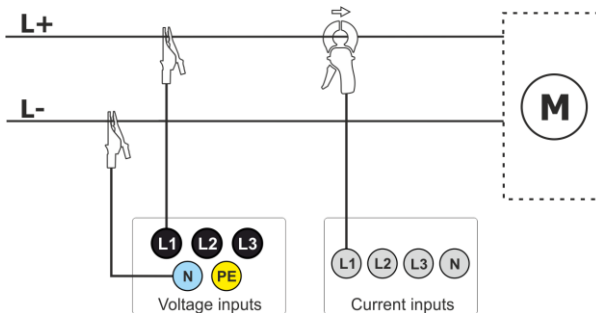

Fig. 25. Wiring diagram – DC system.
- DC – one-voltage DC system (Fig. 25)